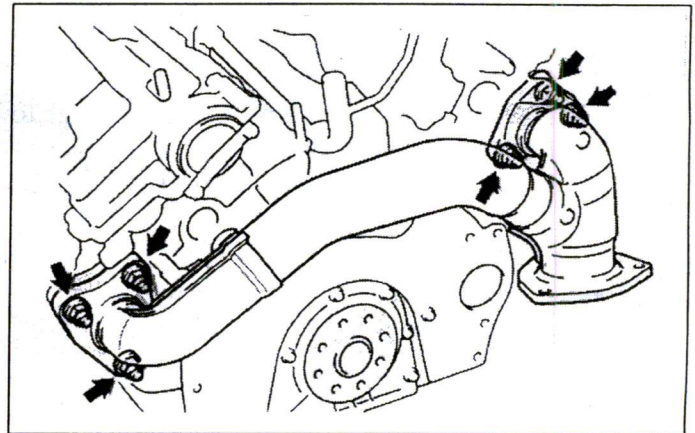

Figure 9
7. Remove a total of 6 nuts connecting both the LH and RH exhaust manifolds to the crossover pipe (Figure 9).